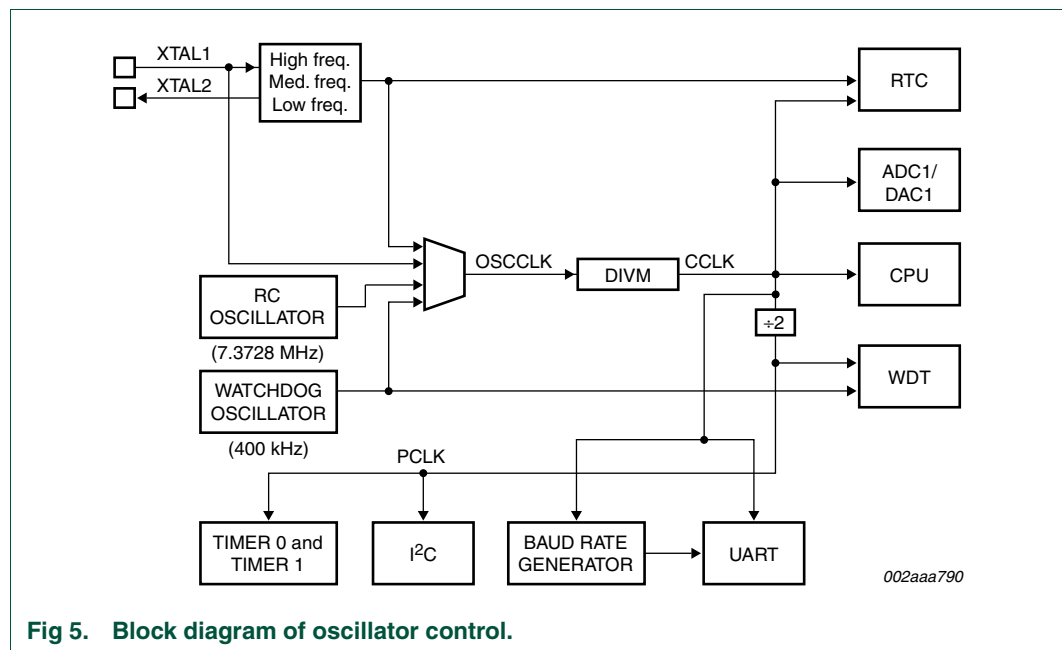

Fig 5. Block diagram of oscillator control.
**OSCCLK** — Input to the DIVM clock divider. OSCCLK is selected from one of four clock sources and can also be optionally divided to a slower frequency (see Figure 5 and Section 2.8 “CPU Clock \(CCLK\) modification: DIVM register”). **Note:**  $f_{osc}$  is defined as the OSCCLK frequency.